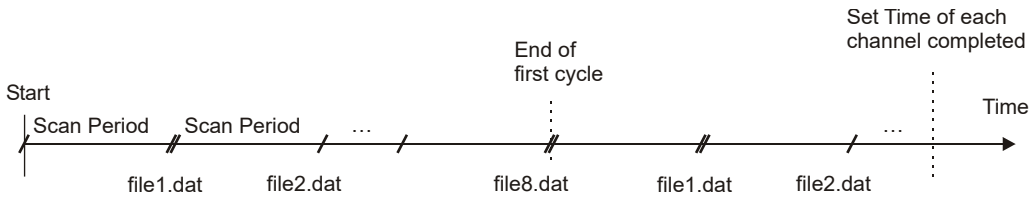

Fig. V.3: Multi-channel standard mode
In case a multi-channel instrument is used, the software offers two additional acquisition modes: The multi-channel (MC) standard mode and the multi-channel consecutive mode. The difference to the single-channel mode is, that the software toggles to the next activated channel after having finished one PD pattern acquisition. In multi-channel standard mode (figure V.3) the PD pattern acquisition starts with channel one, if enabled, and takes a measurement of the pre-set 'Scan Period'. This 'Scan Period' has to be shorter than the 'Set Time' value. After this acquisition the software changes to the next enabled channel and starts a new pattern acquisition. At the end of one channel loop this procedure repeats as often as needed to get a full PD pattern of each channel for the pre-set 'Set Time'. The acquisition can be stopped at any time by pressing 'Stop' or 'Cancel'. One file for each channel is saved automatically after the measurement has been completed, if the 'Auto Save' option is enabled. Otherwise, it is necessary to save each file separately. The multi-channel standard mode is taken, when emphasis is placed on identifying the inception of a PD activity with a larger setup, such as with a commissioning test. Here, the 'Scan Period' is set to few seconds, only, in order to get a short cycle time. However, the history of the discharge activity is lost, since only one file per channel is created.